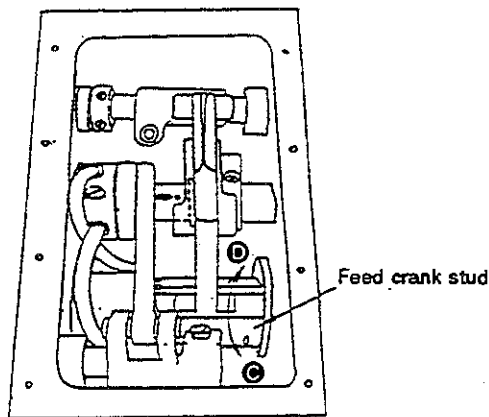

Fig. 3
- Tilt the feed crank stud in the direction Ⓒ or Ⓓ until the position where the feed amount of the feed dog becomes zero (0). Tighten screw Ⓔ at this position. (Fig. 3)